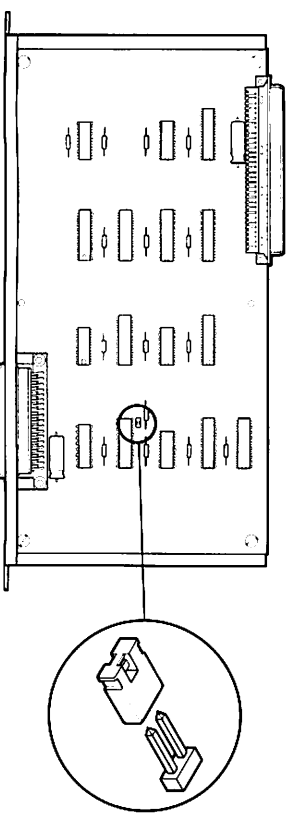

Figure 1. DCS Interface Board with Jumper Connector
2. Check the two option jumper pins located at the right-center of the board, and confirm that the jumper connector is attached to only one pin, as illustrated in Figure 1.